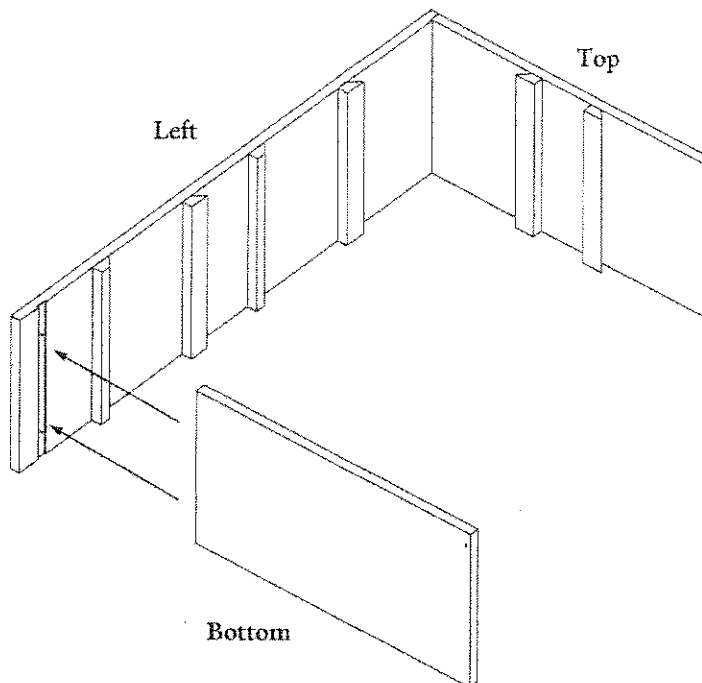

Figure 2
3. Attach the bottom panel to the left panel using the pre-drilled holes and screws provided (**Figure 2**).